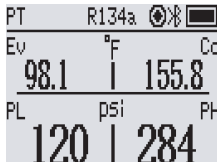

Figure 8 Data record icon
4.**Start recording** : Click to **Recording** , the recording icon on the device lights up and starts to flash (Figure 8) .
❶ The device can record up to 3000 pieces of data.